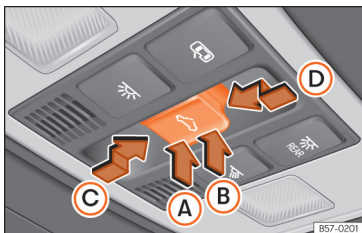

Fig. 66 On the interior roof lining: sunroof button.
The ⇐ ⇨ **Fig. 66** button has two levels. The first level switches the sunroof to the tilted position, opening or closing it fully or partially.
- Within approximately 5 seconds of having activated the roll-back function, press the <=> >>> **Fig. 66** button to the second level in the direction of arrow **D** until the sunroof closes completely.